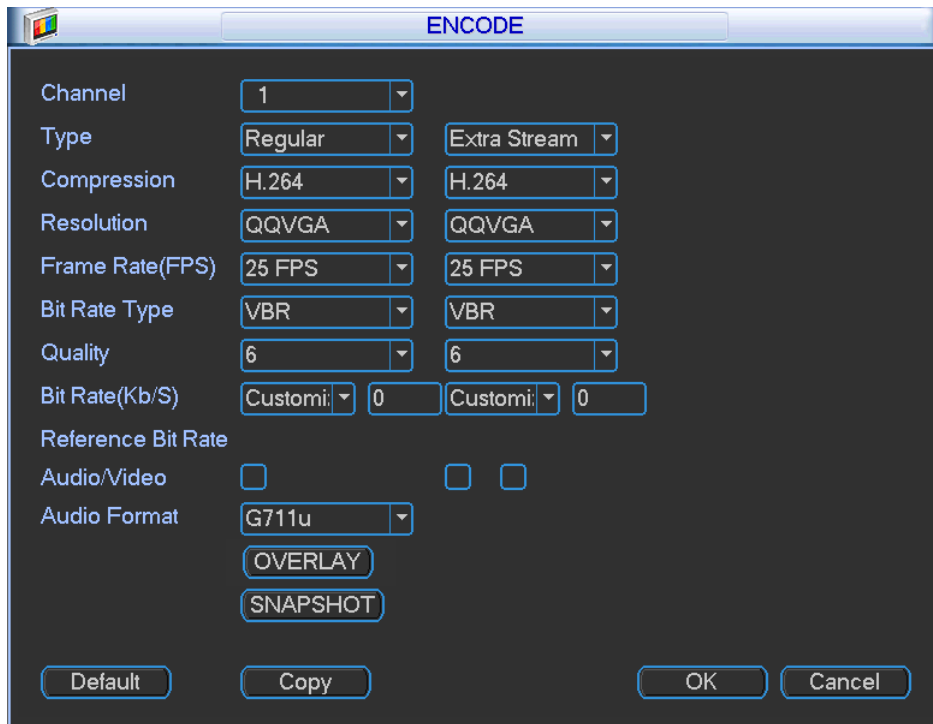
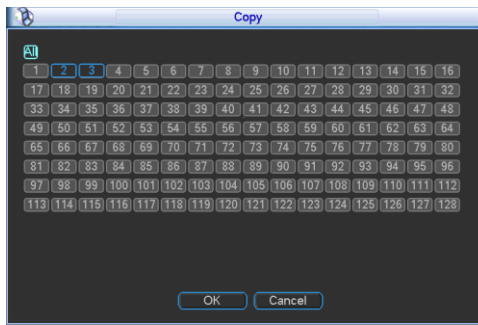
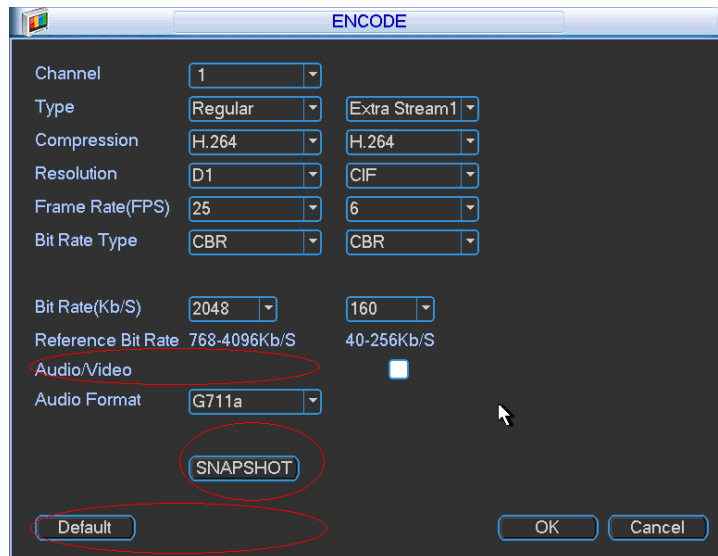

Figure 3-33
Figure 3-36
Figure 3-37
Encode setting includes the following items. See Figure 3-33.
- Copy: **Before the Copy operation, please make sure you selected channel supports current copy contents.** After you complete the setup, you can click Copy button to copy current setup to other channel(s). You can see an interface is shown as in Figure 3-36 (The figure here is based on the 128-channel series product.). You can see current channel number is grey. Please check the number to select the channel or you can check the box ALL. Please click the OK button in Figure 3-36 and Figure 3-33 respectively to complete the setup. Please note, once you check the All box, you set same encode setup for all channels. Audio/video enable box, overlay button and the copy button is shield. See Figure 3-37.